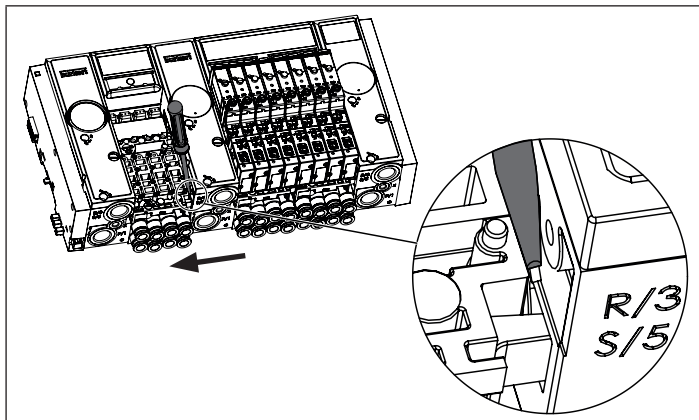

Fig. 16: Unlocking bottom latch hook
- Unlock the bottom latch hook. To do this, push the left connection module parallel to the standard rail of the locked valve unit away with a slotted screwdriver at the bottom latch hook, until the bottom latch hook unlocks (see “Fig. 16”).
- Unlock the bottom latch hook. To do this, push the connection module parallel to the standard rail of the locked valve unit away with a slotted screwdriver at the bottom latch hook, until the bottom latch hook unlocks (see “Fig. 16”).
- Unlock the bottom latch hook. To do this, push the right connection module parallel to the standard rail of the locked valve unit away with a slotted screwdriver at the bottom latch hook, until the bottom latch hook unlocks (see “Fig. 16”).
→ Unlock the bottom latch hook. To do this, push the connection module parallel to the standard rail of the locked valve unit away with a slotted screwdriver at the bottom latch hook, until the bottom latch hook unlocks (see “Fig. 16”).